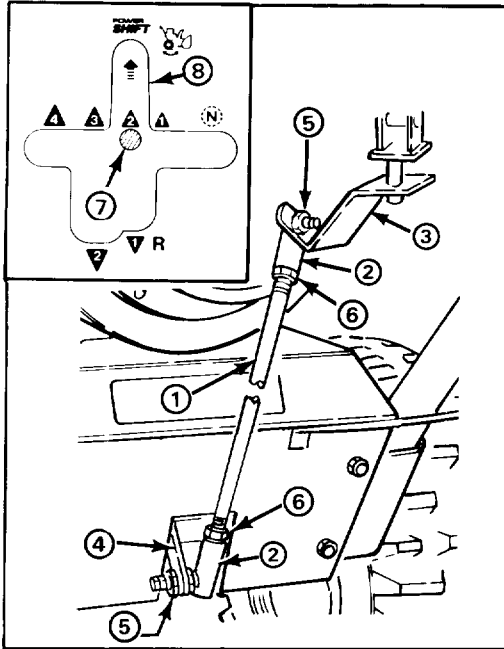

Figure 4
## INSTALL SHIFT ROD (Fig. 4)
**Note:** If gear shift lever is not aligned with Power Shift slot in control panel (Fig. 4, Inset), shift